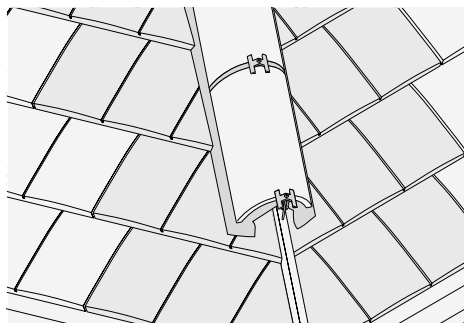

Fig. 26 – Typical bedded hip using third round ridge units as hip capping, tile-and-a-half tiles shown shaded
- 3 Fix a hip iron at base of hip rafter and shape first hip tile at front to align with tiling at the eaves (Fig. 26).